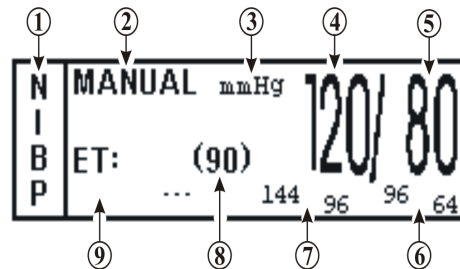

Figure 4-9. The NIBP Display
4.4.2 Associated Displays. When NIBP is selected, the display is located at the lower left of the normal screen (See **Figure 4-9**). This is a specialized display panel which includes the information concerning the NIBP status. The following is a description of the items contained in the NIBP Display.